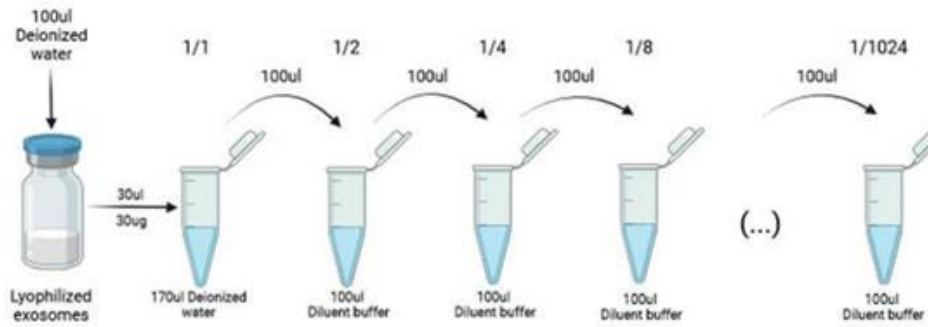

Figure 2: Graphical representation of the serial dilution of the Standard included in this kit.
3. We need to mix 200 µl from Eppendorf n°1 (1/1 dilution) to Eppendorf n°2 (1/2 dilution). Repeat this process until the 1/1024 dilution is completed (figure 2). Last well should contain only diluent buffer. This is the point that we will use as blank.